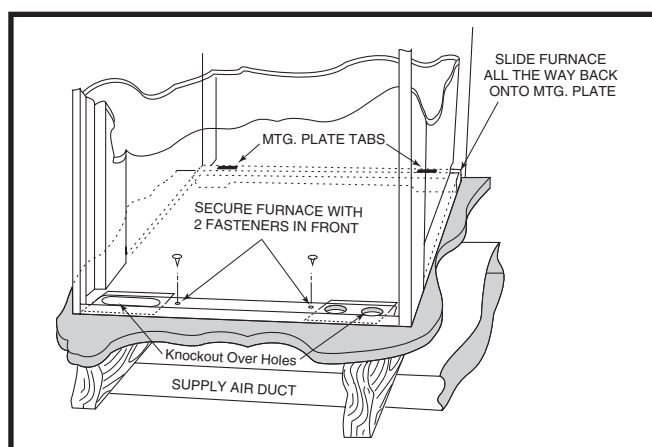

Figure 17. Cabinet Furnace on Supply Air Duct
4. Secure front with one (1) fastener at each corner (Figure 17).